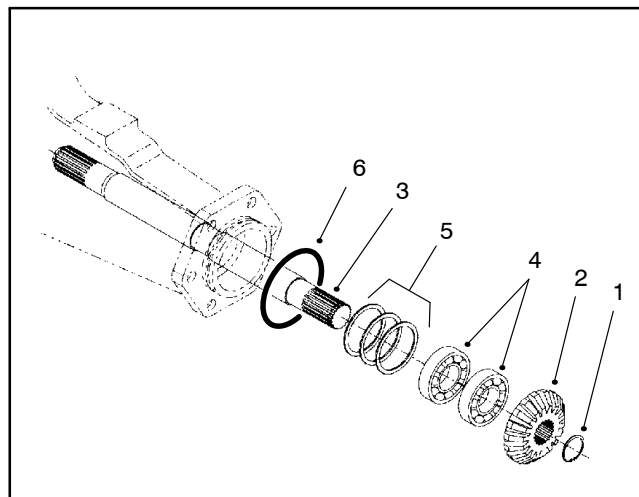

Figure 29
3. Remove the retaining ring and bevel gear (Fig 29).